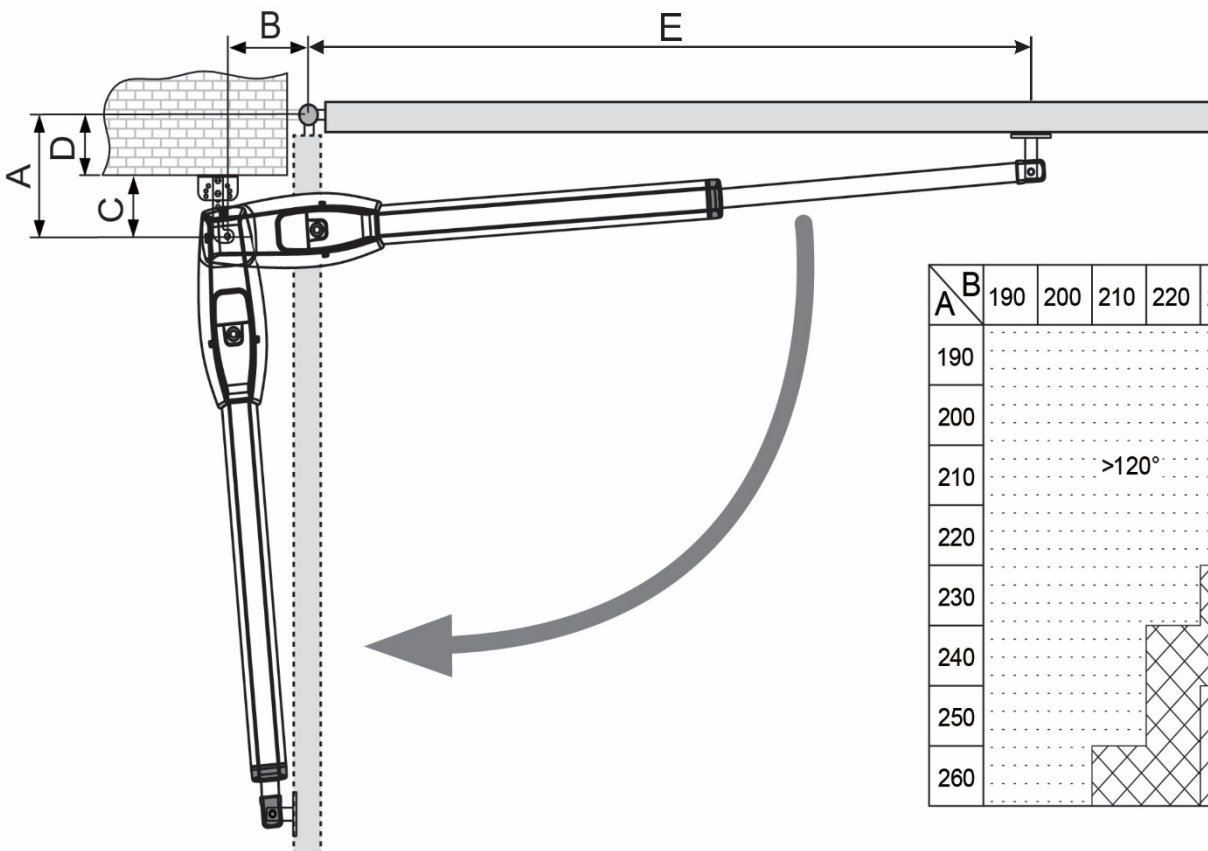

Fig 1
- 1) Check that the motor mounting position on the gate pillar can be done with the measurements in Figure 1 and Graph 1